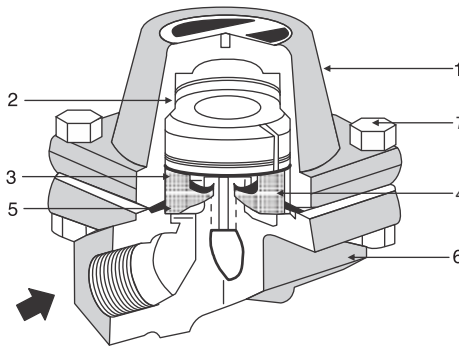

Figure 1: Forbes Marshall Tracer Line Trap / Forbes Marshall Air Vent
4.1 Operations of Forbes Marshall Tracer Line Trap / Air Vent : (Refer Figure 1)
7.4. Procedure to fit or replace thermopod and seat assembly: (Refer Figure 1)
7.5. Procedure to clean or replace the strainer screen: (Refer Figure 1)